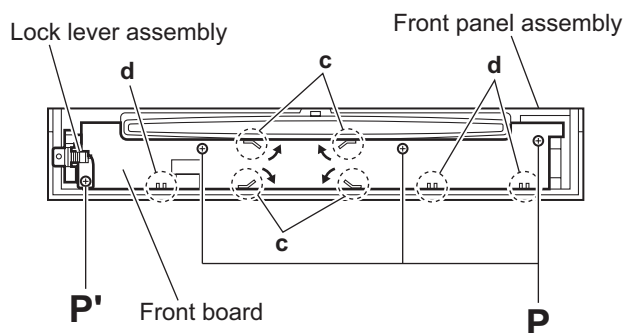

Fig.15
3.1.8 Removing the front board (See Fig.15)